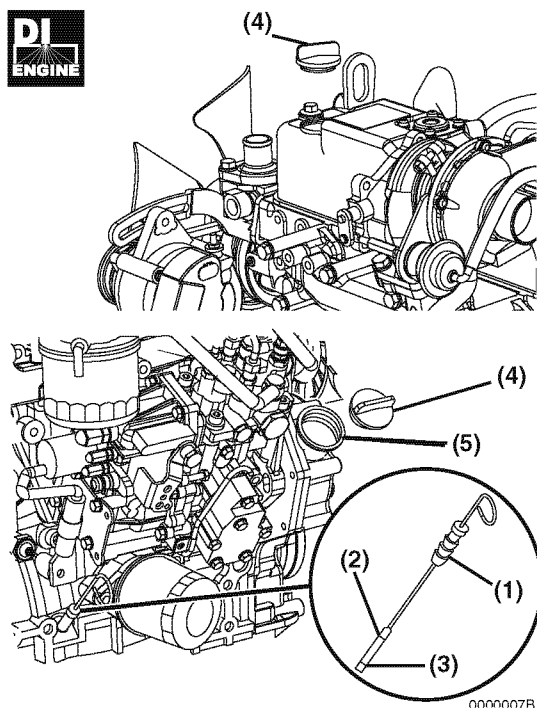

Figure 4
2. Remove dipstick (**Figure 4, (1)**) and wipe with clean cloth.
4. Remove dipstick. The oil level should be between upper (**Figure 4, (2)**) and lower (**Figure 4, (3)**) lines on the dipstick.
2. Remove oil cap (**Figure 4, (4)**).
3. Add indicated amount of engine oil at the top or side engine oil filler port (**Figure 4, (5)**).
6. Reinstall oil cap (**Figure 4, (4)**) and hand-tighten. Over-tightening may damage the cap.